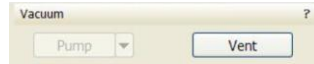

Figure 7
1. Click **Vent** button in Beam Control  page of UI to vent the chamber (Figure 7). Click **Yes** on the xTm: Vacuum Message dialog.